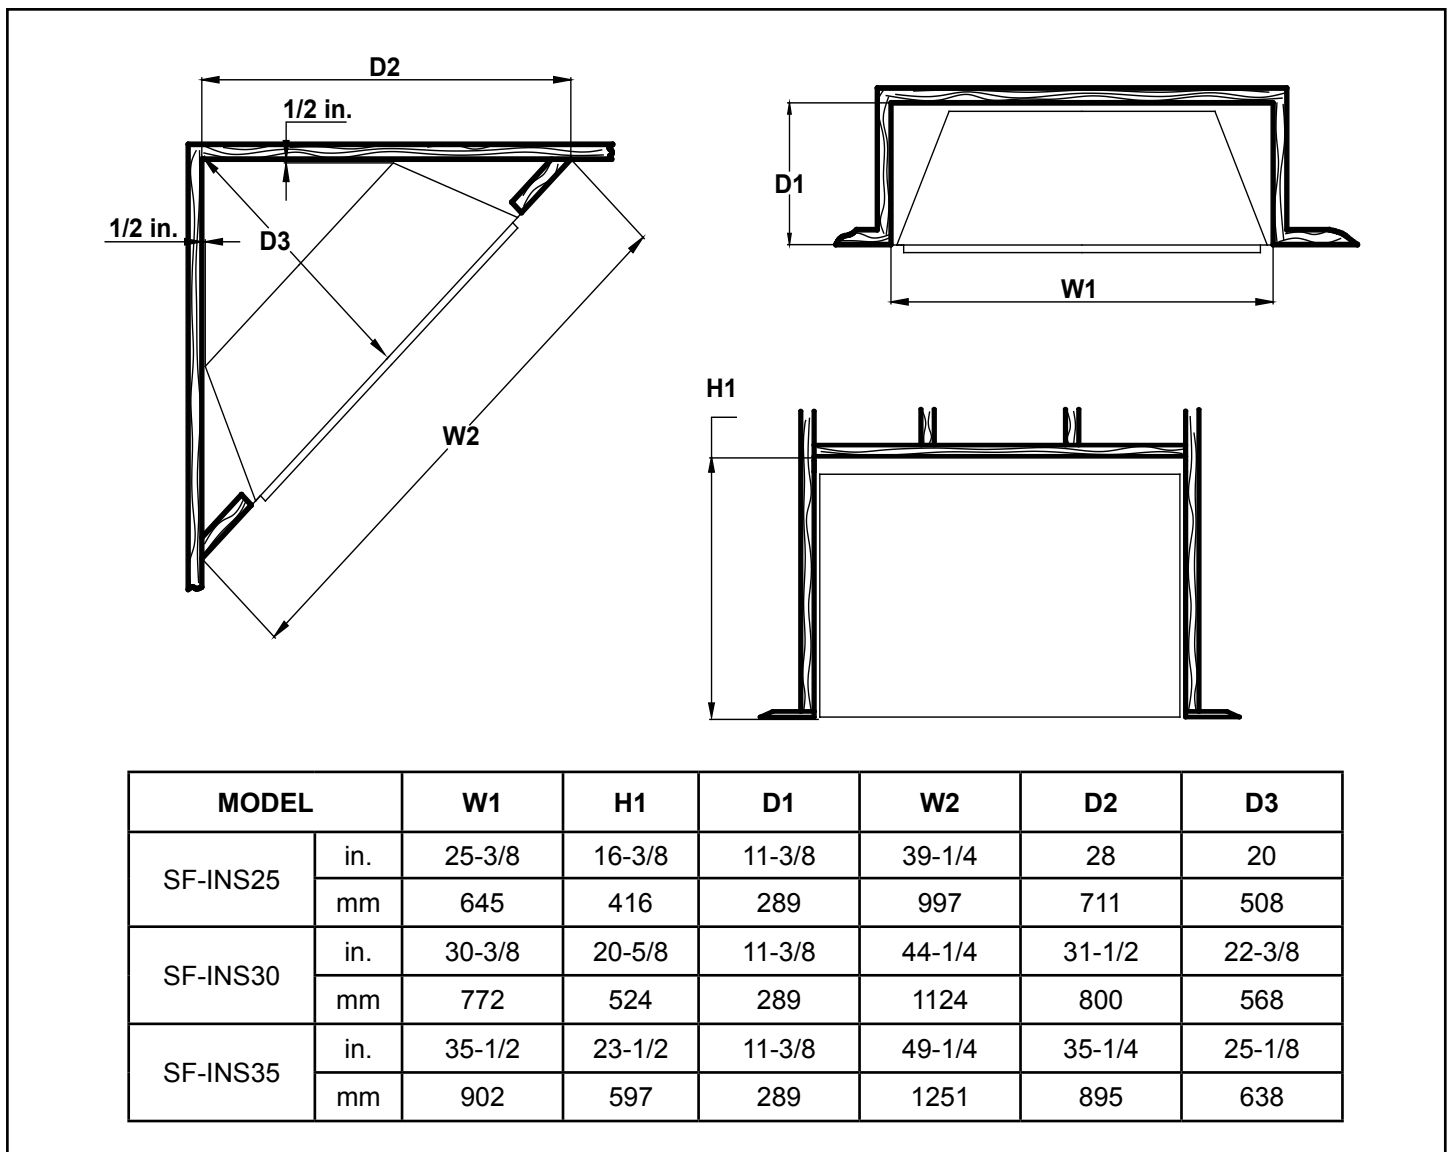

Figure 4.10 Framing Dimensions
When selecting a location for the appliance it is important to consider the required clearances to walls. See Figure 4.10 and 4.11.
1. This appliance is approved for built-in installation. Refer to Figure 4.10 for framing dimensions.